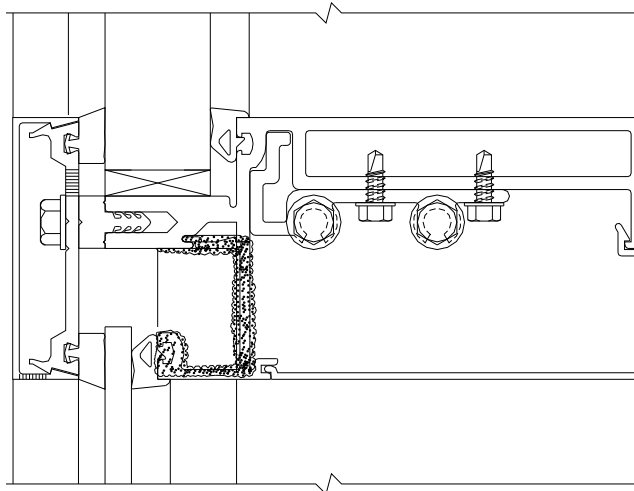

FIG. 9
- A.) The top of each spandrel infill should consist of a horizontal assembly with a bolt on pressure plate as shown in FIG. 9 below.
- B.) Remove the pressure plate at the top of infill lite. Ref. FIG. 9.